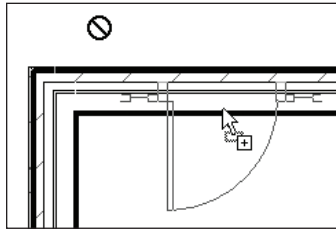

FIGURE 1.55 Inserting a hosted family (.rfa)
9. Zoom in on the upper-left corner of the building, as illustrated in Figure 1.55.
10. To insert the door into the model, you must place it in the wall. (Notice that before you hover your cursor over the actual wall, Revit will not allow you to add it to the model, as shown in Figure 1.55.) Once your pointer is directly on top of the wall, you will see the outline of the door. Once you see this, pick a point in the wall. The door is inserted. (We will cover this in depth in the next chapter.)